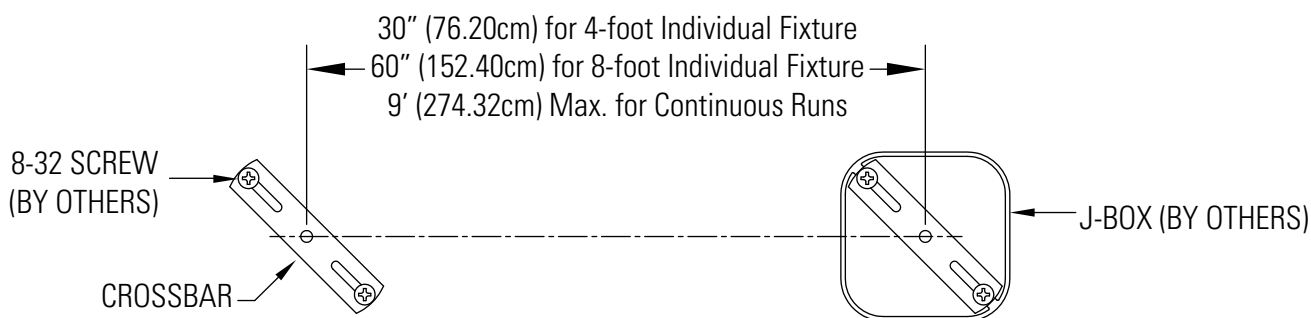

Figure 4
- A. Mark off mounting distances from center of J-BOX to next mounting center. Maximum 9' (274.32cm) on continuous runs. (Fig. 4)